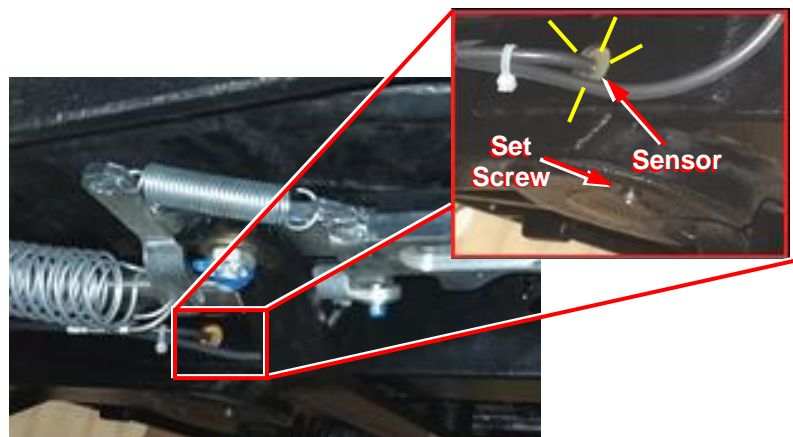

FIGURE 13
- Holding the sensor by the cable, push the sensor aft until the LED light goes out (see figure 13).